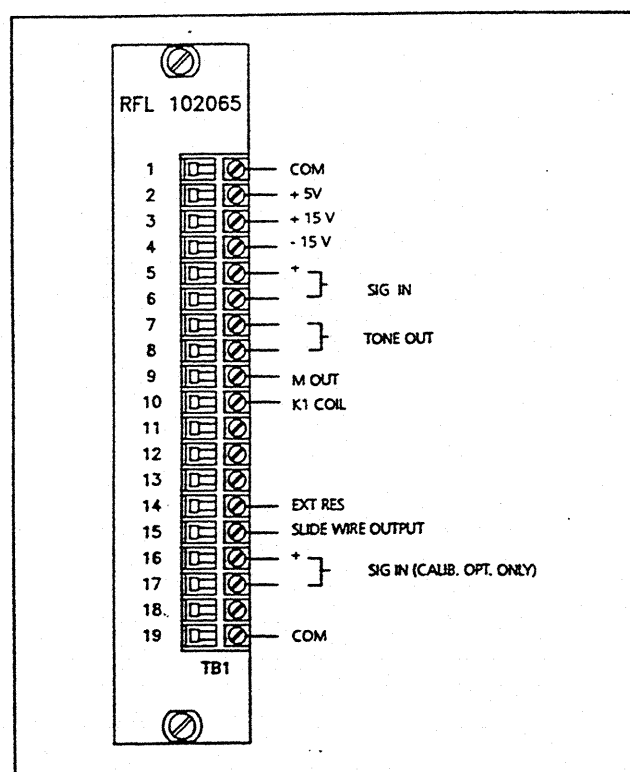
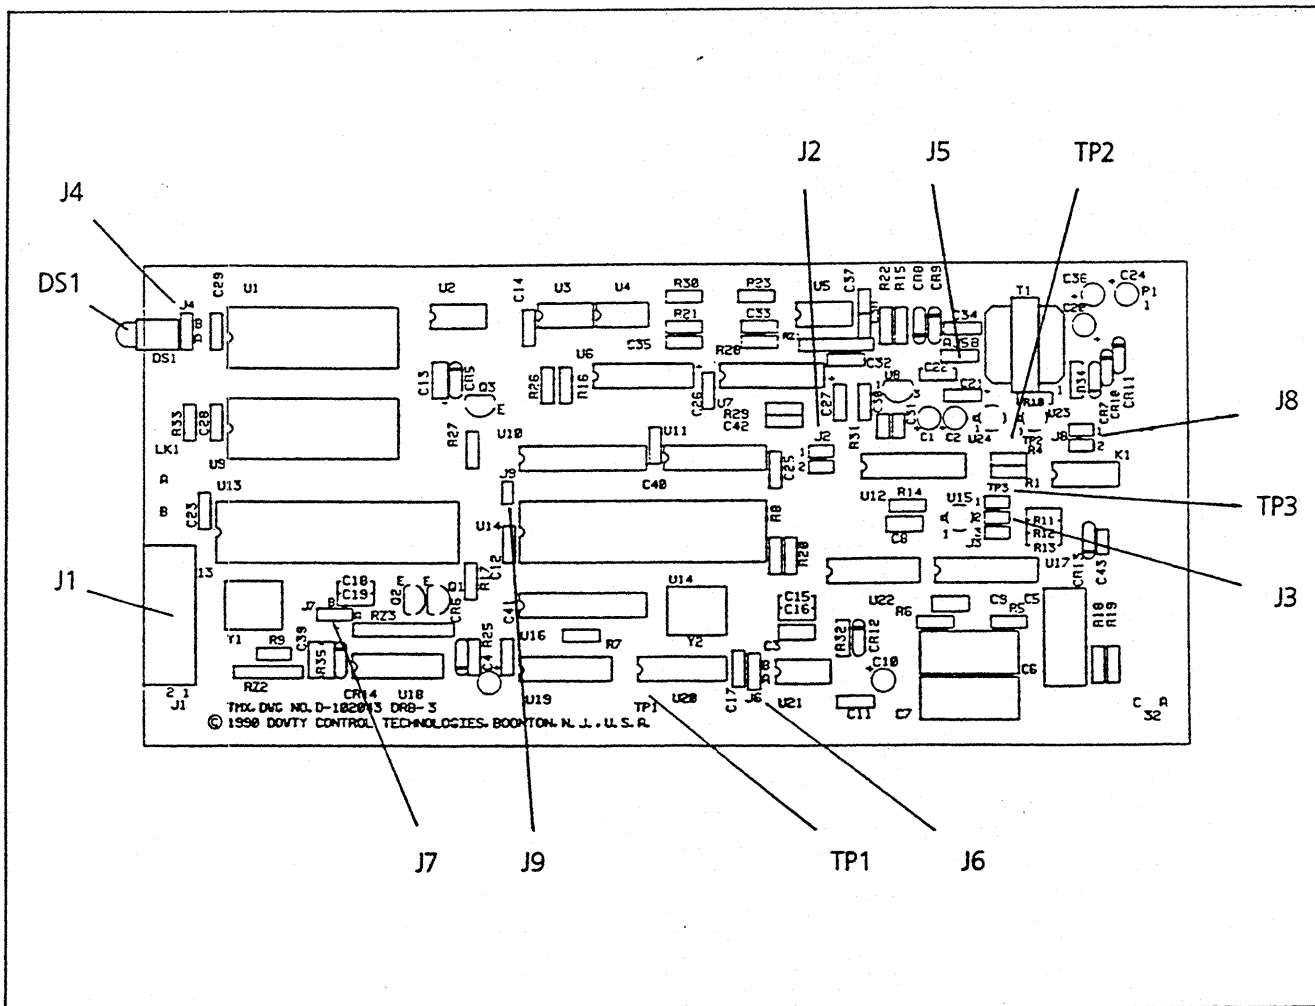

Figure 2. Wiring assignments for RFL 98 TMX modules using the RFL 98 DATA I/O 19-Point Data I/O Module
Figure 3. Controls and indicators, RFL 98 TMX Programmable Telemetry Transmitter
Wiring assignments for the RFL 98 DATA I/O module are given in Figure 2. Figure 3 shows the location of all controls and indicators used during installation and operation of the RFL 98 TMX; these controls and indicators are described in Table 2.
6. Using Figure 2 as a guide, connect all power and signal wiring to the RFL 98 DATA I/O module installed during step 2 above.
8. Check the setting of factory test jumper J4. (See Figure 3 for location.)
9. Check the setting of impedance selection jumper J5. (See Figure 3 for location.)
10. Check the settings of factory test jumpers J6, J7, and J9. (See Figure 3 for location.)
11. Check the setting of common reference jumper J8. (See Figure 3 for location.)